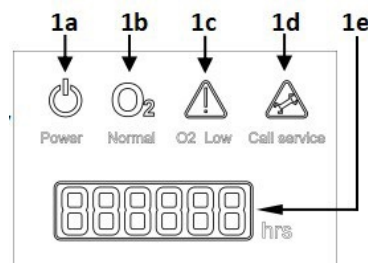

Figure 4
* The following parts description refers to the instructions in Figure 4*